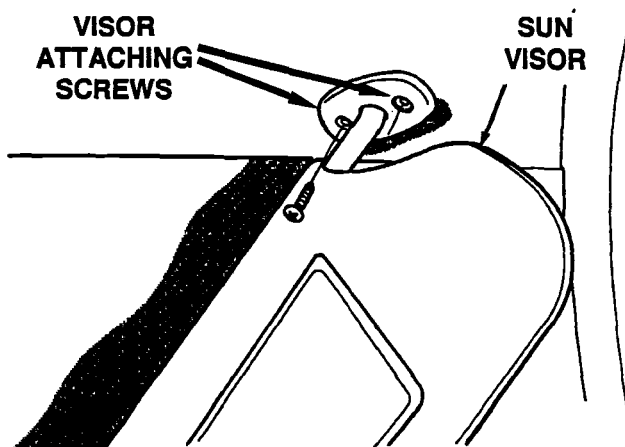

Figure 3
11. Remove the two (2) screws that secure the right sun visor to the roof panel and remove the right sun visor from the headliner (Figure 3).
14. Remove the two (2) screws that secure the left sun visor to the roof panel and remove the left sun visor from the headliner (Figure 3).
74. Install the left sun visor onto the headliner and install the two (2) screws that secure the left sun visor to the roof panel (Figure 3). Tighten the screws to 20 in-lbs (2.2 N·m).